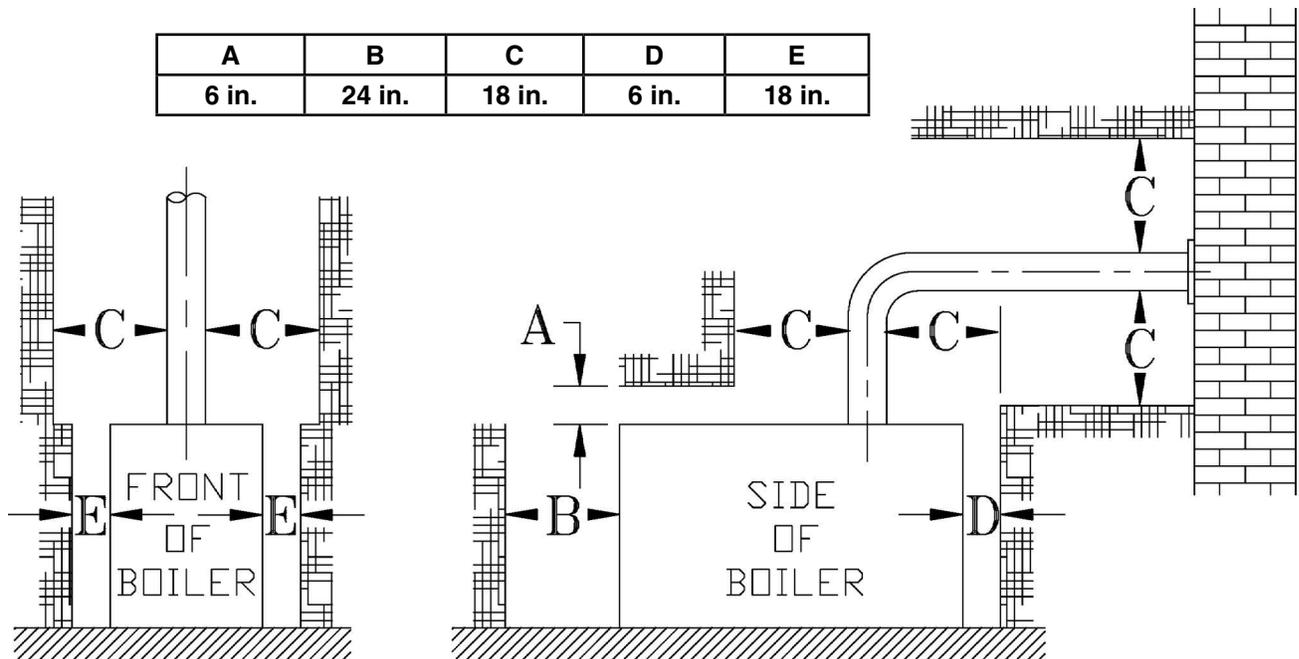

Figure 2-1: Minimum Installation Clearances To Combustible Materials (Inches)
- For minimum clearances to combustible materials. See Figure 2-1.